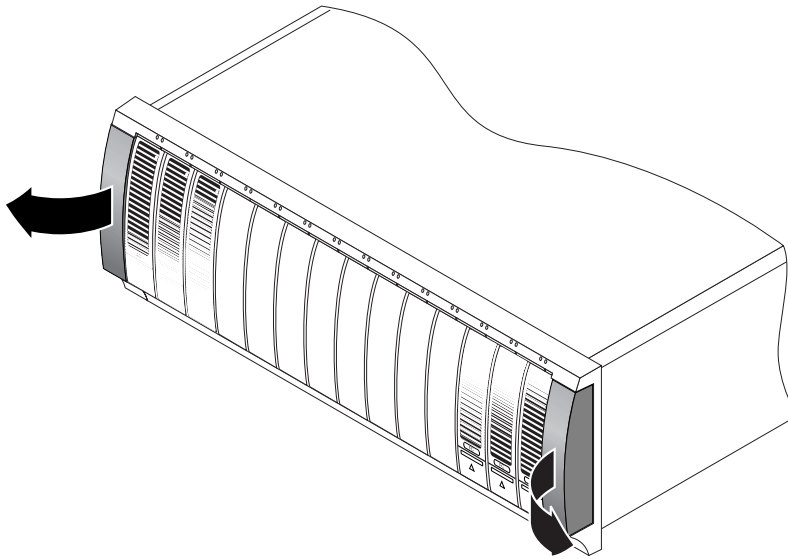

FIGURE 6 Removing the End Caps on the Array Module
1. Unsnap and remove the left and right end caps on the array module to permit access to the screw mounting holes (FIGURE 6).